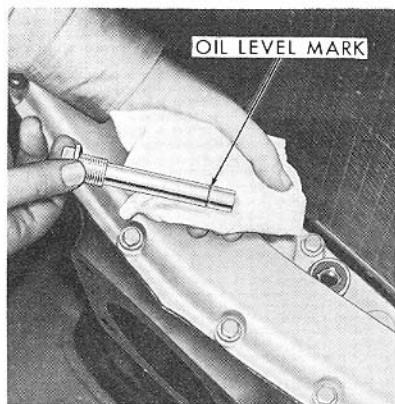

Figure 25
**Pedestal:** To check the oil level, remove the tractor radiator grille and the pedestal filler opening plug. Wipe the plug dry and reinsert it into the opening, tightening to finger tightness. Remove the plug and check the oil level as indicated by the oil level mark, see Figure 25. Add oil if necessary. (SEE SERVICE EVERY 600 HOURS.)